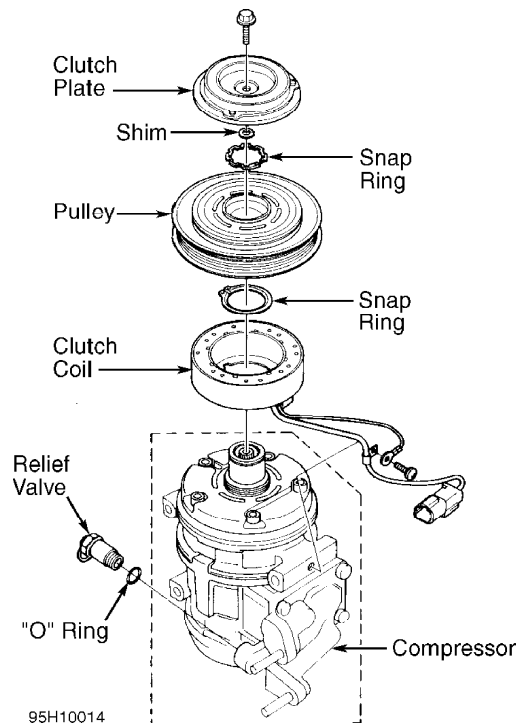

Fig. 2: Exploded View Of Compressor (Nippondenso 10-Cyl. - Typical)
2) Remove shim(s) and pulley snap ring. See Fig. 2, 3, or 4. Tap pulley off compressor shaft using a plastic hammer. If pulley cannot be removed, use a 2-jaw or 3-jaw puller. Position puller jaws onto edge of pulley to prevent pulley groove from being deformed. Disconnect clutch coil lead. Remove clutch coil snap ring and clutch coil.